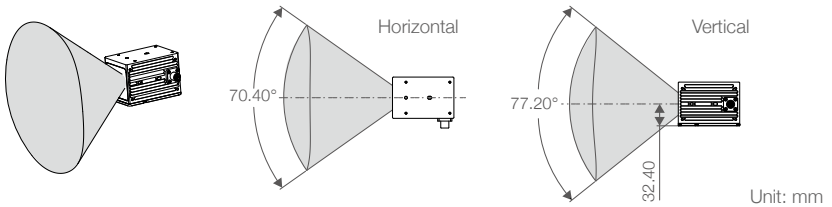

Figure 3.1.1 Effective FOV of the Avia
3. When mounting the Avia, the field of view must not be blocked by any object, including glass. Refer to Figure 3.1.1.